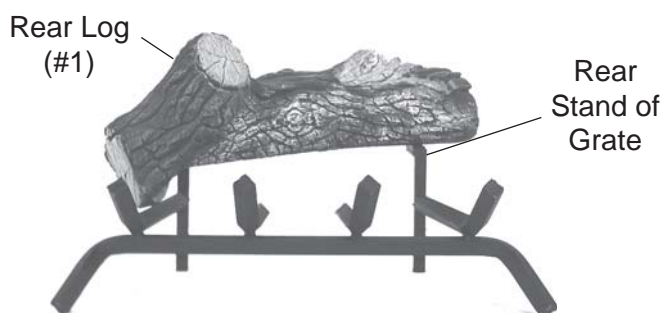

Figure 123 - Placing Rear Log #1 on Back Grate
2. Place Rear Log #1 on back of grate. Left side should fit on grate in front of rear stand. Right side goes on the rear stand of grate. See Figure 123.